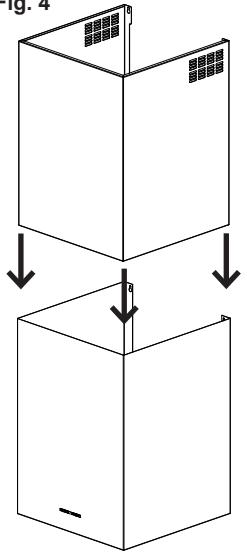

Fig. 5
- Hang the hood body on the wall using the 4 drill holes **A** (Fig.5).